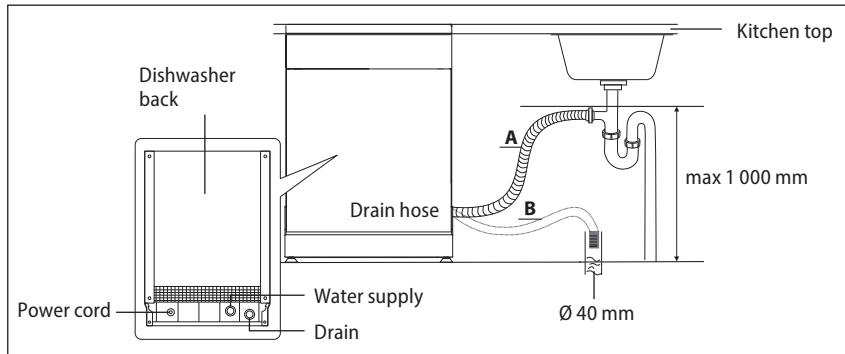

Fig. 19
- Connect the drain hose according to Fig. 19.
Connect the drain hose to the waste pipe with a minimum diameter: 40 mm (Fig. 19). Make sure the drain hose is not bent or squeezed to prevent slowing down or stopping of the water flow.
The height of the waste pipe must be less than 1,000 mm (Fig. 19) and the drain hose should not be submerged in water. Secure the drain hose properly to prevent unwanted loosening from the waste pipe.